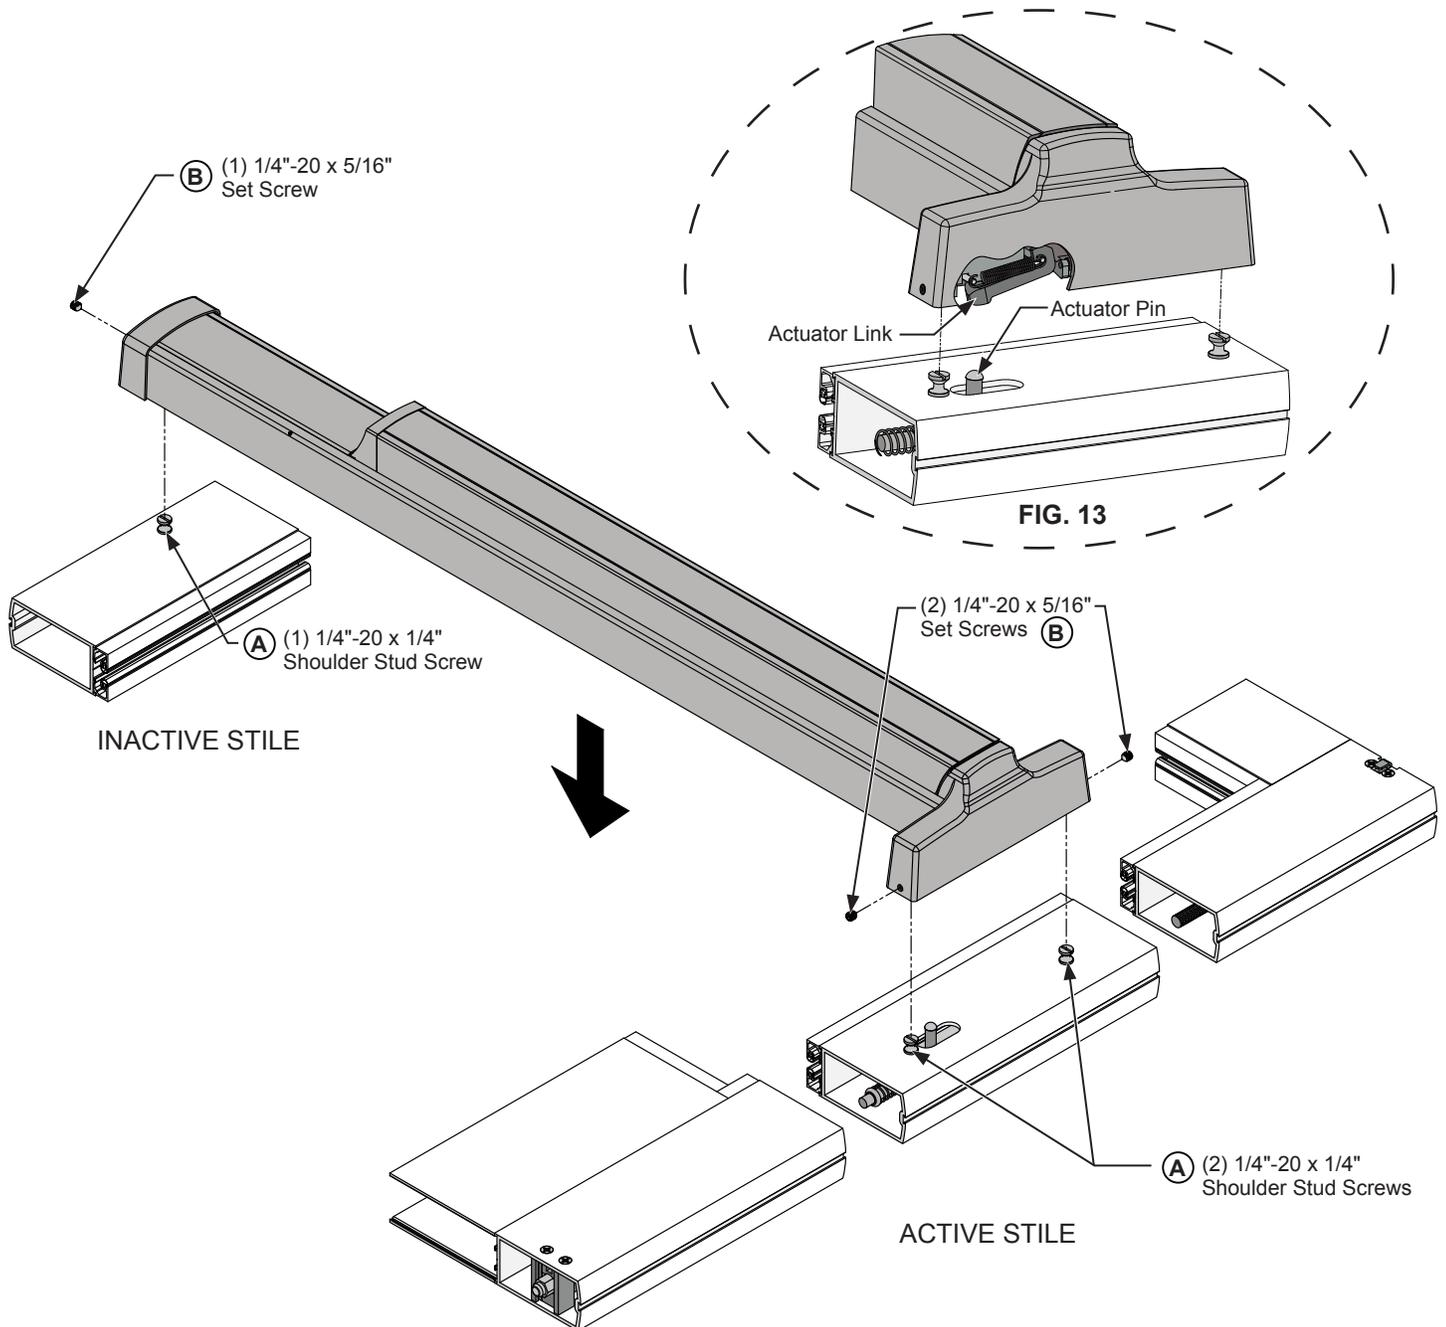

FIG. 14
2. Tighten the (3) set screws (B) on each side of the door stiles. (Fig. 14)
2. The bottom bolt should fully retract. If the bolts fail to operate as described, review the actuator link and actuator pin and make sure the actuator link engages the actuator pin (**Fig. 14**).